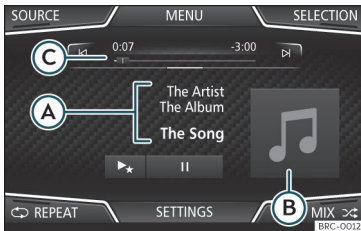

Fig. 149 MEDIA main menu.
- Press the infotainment button  to open the *Media* main menu >>> Fig. 149.
The media source being played is indicated on the dropdown list when pressing the **SOURCE** function button >>> Fig. 149.